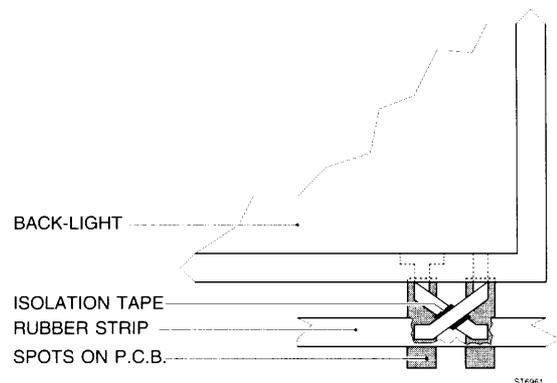

Figure 7.16 Crossed backlight contact legs
12. Reinstall the LCD rubber filling part (item 13) and the back light foil.
*If a backlight foil is installed on a digital A1 PCB revision level 9 or lower, the backlight contact legs must cross each other, as shown in Figure 7.16. Bend the ends of the contact legs slightly to ensure a good connection with the spots on the printed circuit board.*